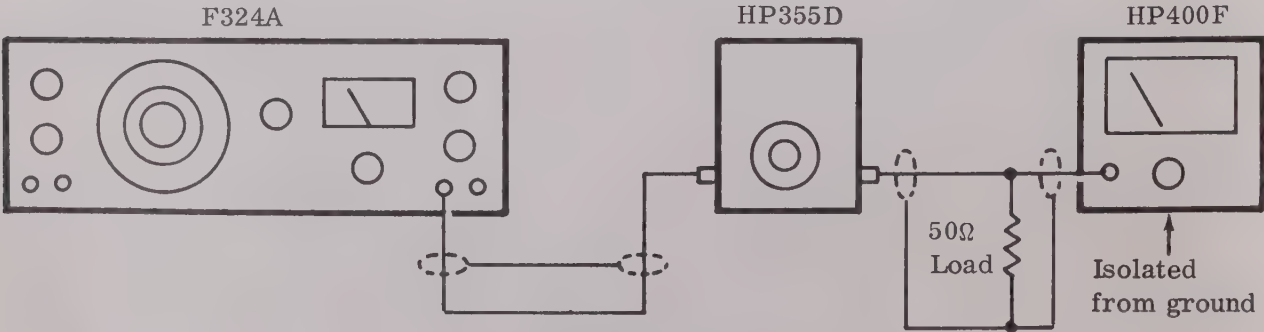

FIGURE 5-10
- a. Interconnect equipment as shown in Figure 5-10, observing signal and ground connections carefully. Terminate the output in a 50Ω load.